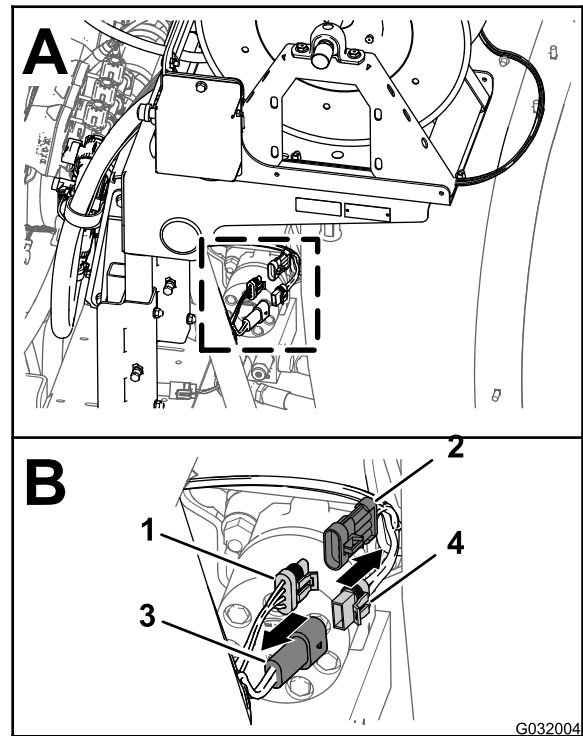

Figure 3
1. At the back of the machine, locate the wire harness for the electric-hose-reel kit at the back of the sprayer tank (Figure 3).
2. Disconnect the 2-socket connector of the harness for the electric hose reel from the 2-pin connector of the rear main harness (Figure 3).
3. Disconnect the 3-pin connector of the harness for the electric hose reel from the 3-pin socket of the rear main harness (Figure 3).